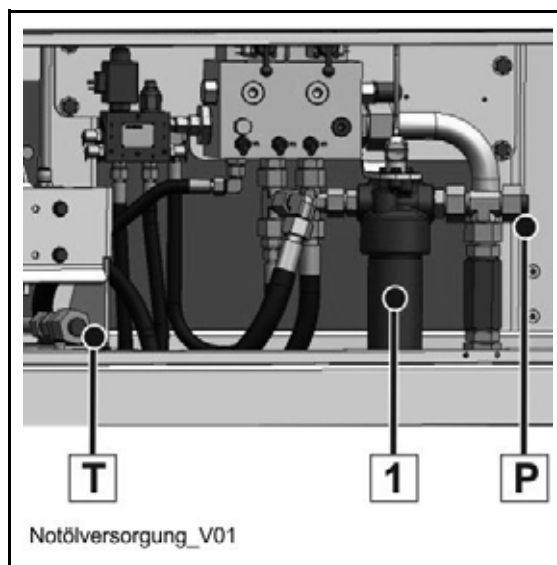

Fig. 230 Emergency oil supply (similar to illustration)
- Connect the P junction on the emergency unit to the P junction (**Fig. 230**) on the machine.